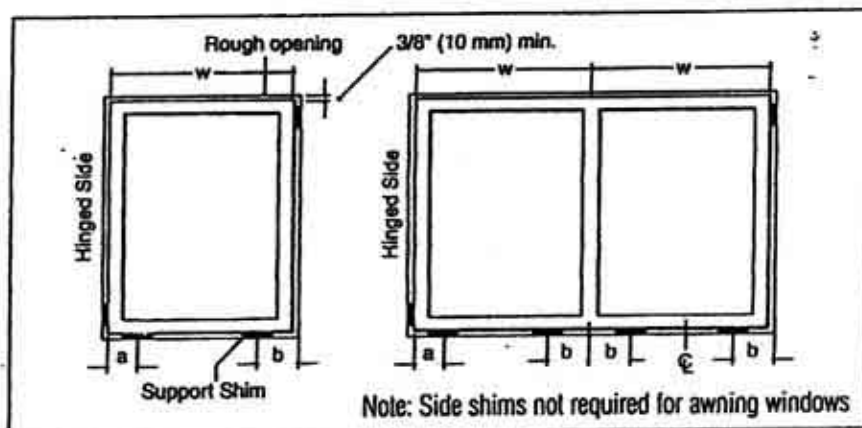

Figure 3-2. Where to put the support shims
- 2.4 Shim sill of window 2" from the corners and on both sides of any mullions with 4" x 1 1/2" shims (See fig. 3-2). **Adjust the height of the shims to obtain a level sill**, ensuring you have 3/8" gap at the head (inter-storey deflection not to exceed ±3/8").